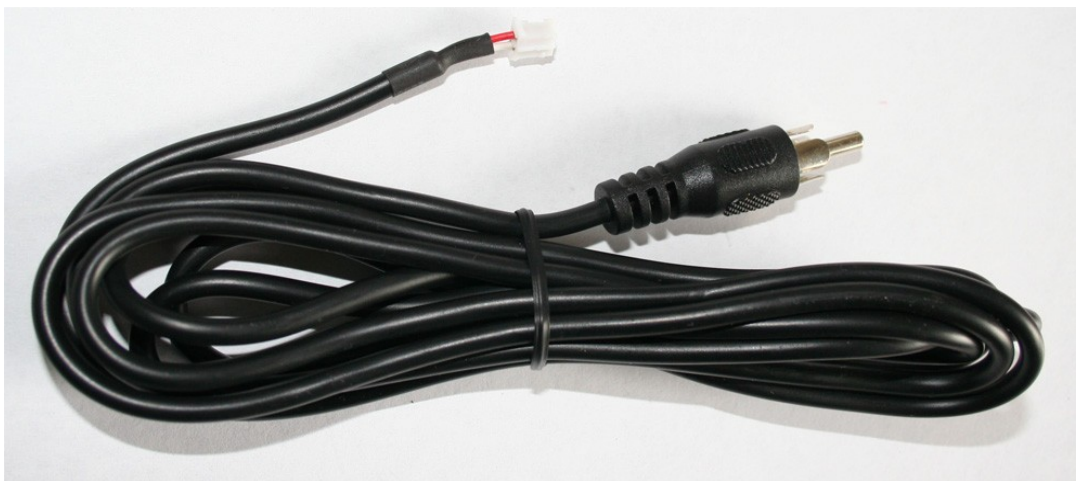

Figure 6. Composite Video Cable
1.2.4 Composite Video Cable, see Figure 6